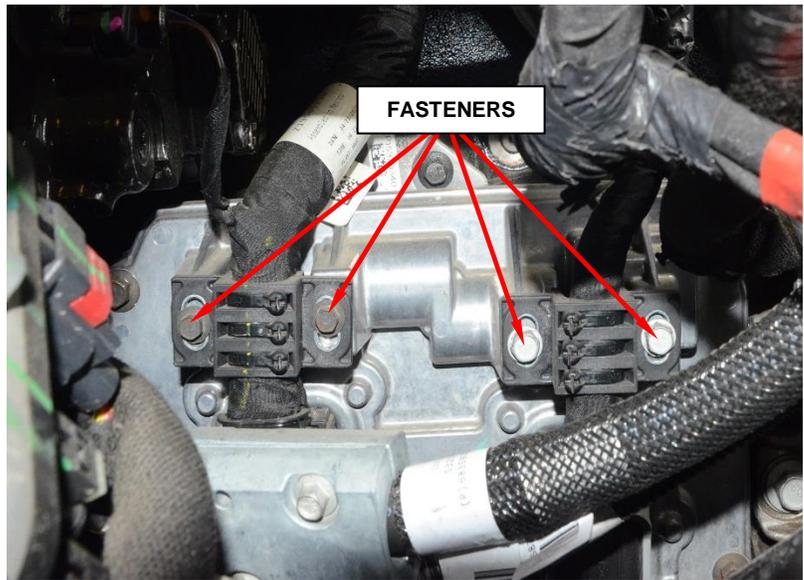

Figure 3 – Wire Harness
7. Remove the fasteners securing the transmission wire harness to the PCM (Figure 3).
8. Remove the fasteners securing the engine wire harness to the PCM (Figure 3).